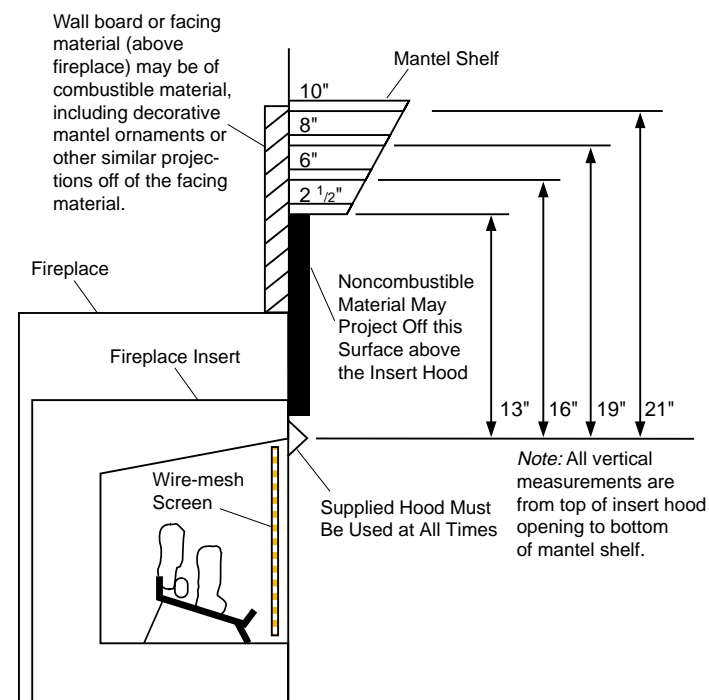

Figure 12 - Minimum Mantel Clearances for Fireplace Insert Installation
- A. Clearances from the side of the fireplace cabinet to any combustible material and wall should follow diagram in Figure 12, page 10.
If there is a mantel above masonry fireplace, you must meet minimum clearance between mantel shelf and top of fireplace opening (see Figure 12).
Installation of this fireplace insert involves installing fireplace insert into an existing masonry fireplace. If using a mantel above the fireplace, you must follow the clearances shown in Figure 12, page 10. Follow the instructions below to install the fireplace insert in this manner.